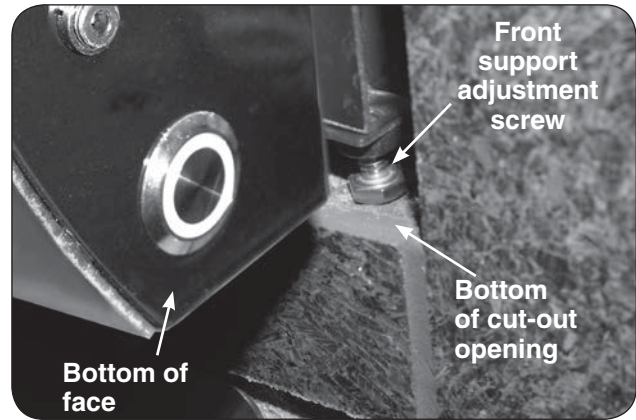

Fig. 22-1 Front support adjustment screws
- Insert the rear pointed-end of the lifter between the same two rods (Fig. 22-1, B) and carefully lift the cooking grid and place onto the front and rear grid rests of the grill (see Fig. 22-2). Repeat for all other cooking grids.